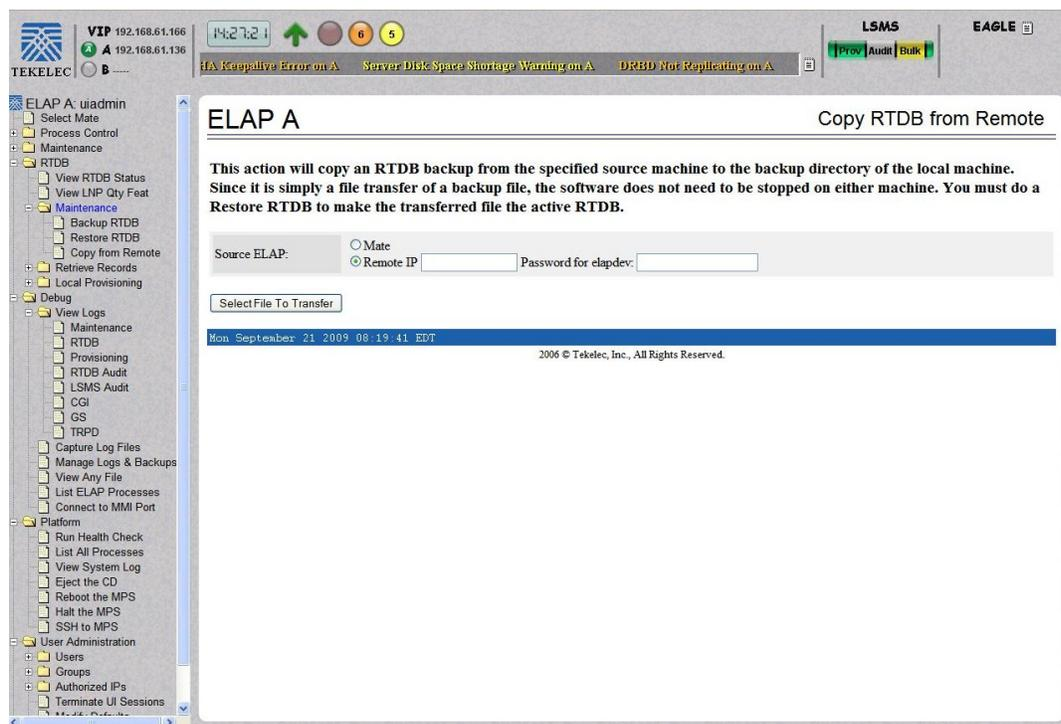

Figure 85: Copy RTDB from Remote Screen
The Figure 85: Copy RTDB from Remote Screen screen is displayed.
4. To copy the remote RTDB, enter the remote box's IP address and a password for the "elapdev" user ID in the fields shown in *Figure 85: Copy RTDB from Remote Screen*. Then, click the **Select File To Transfer** button.